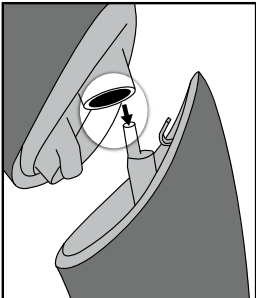

Fig. 4.
- To attach the nose & ear head, insert the pin of the trimmer body into the hole of the nose & ear head (Fig. 4).